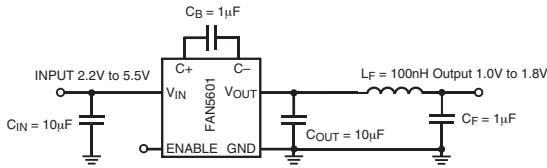

Figure 1. Optional L-C Filter
When $V_{IN} \geq 2.22 \times V_{OUT}$, a 2:1 configuration shown in Fig.1(A) is enabled. The factor 0.9 is used instead of 1 in order to account for the effect of resistive losses across the switches and to accommodate hysteresis in the voltage detector comparator. Two phase non-overlapping clock signals are generated to drive four switches. When switches 1 and 3 are ON, switches 2 and 4 are OFF and C_B is charged. When switches 2 and 4 are ON, switches 1 and 3 are OFF, charge is transferred from C_B to C_{OUT} .
When $V_{IN} < 2.22 \times V_{OUT}$, a 1:1 configuration shown in Fig. 1(B) is enabled. In the 1:1 configuration switch 3 is always OFF and the switch 4 is always ON. At 1.6V output setting the configuration changes from 2:1 to 1:1 at $V_{IN} = 3.56V$. At 1.3V output setting the change occurs at $V_{IN} = 3.06V$.